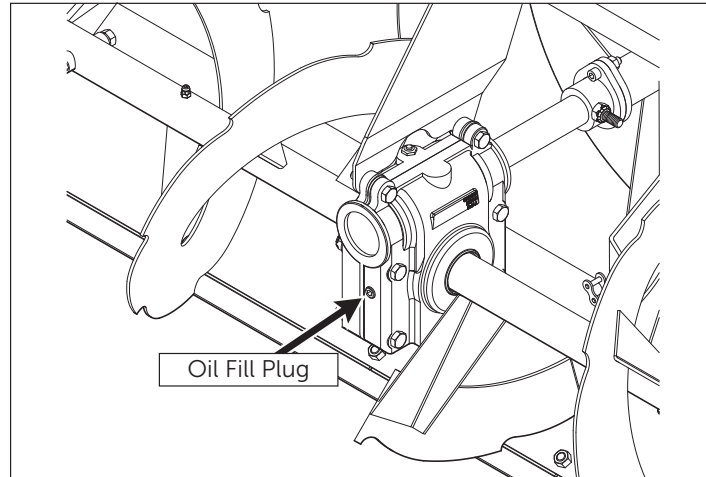

Figure 4.1: Oil Fill Plug
1. Clean the area around the oil fill plug located on the front of the gearbox as shown in Figure 4.1.